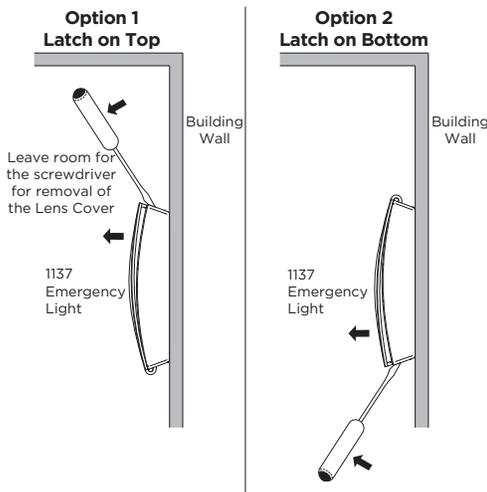

Figure 4: Removing the Cover Lens
1. Open the cover lens. Insert a flat screwdriver in the cover lens latch on the base and gently pry the screwdriver handle while pulling the cover lens open from the base. See Figure 4.
3. The 1137 may be mounted with the latch toward the top or toward the bottom (see Figure 4). If mounting with the latch toward the top, it is important to leave room for access to the latch and to fully rotate the cover lens to the open position for battery installation or replacement. Using two #6 screws in the two mounting holes, mount the base vertically to the wall.